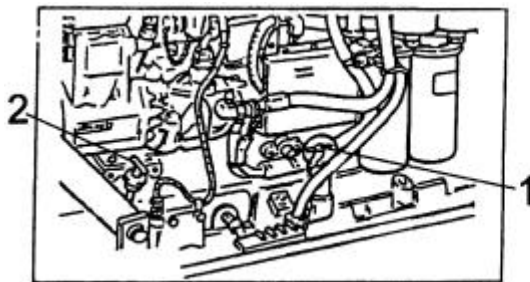
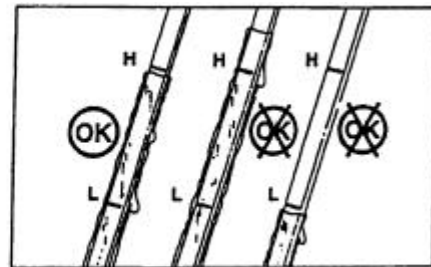

Fig. 5.29. Location of Dipstick
Fig. 5.30. Engine Oil Dipstick
2. Check the oil level using dipstick 1, Fig. 5.29.
3. The oil level should be between L and H marks, Fig. 5.30. Add oil if necessary thru filler port (2, Fig. 5.29). Check the oil level daily. Never start the engine when the oil level is below L mark (too low) or above H (too high) at the dipstick (see Fig. 5.30). Check the oil level prior to starting the engine or at least 5 minutes after stopping the engine. This allows the oil to drain back into the crankcase.
2. Remove oil filler cap 2, Fig. 5.29. Fill the engine with the type and quantity of engine oil specified on the oil filler. The type of lubricant used depends on the ambient temperature. Select according to the table specified in REFILL SPECIFICATIONS AND CAPACITIES CHART.